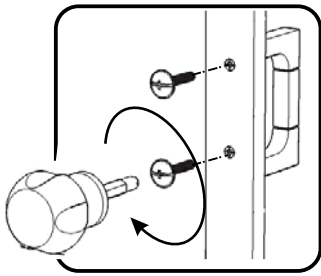

Figure 10
Attach Handles to Doors (P) and (Q) with Machine Screws. (See Figure 10)